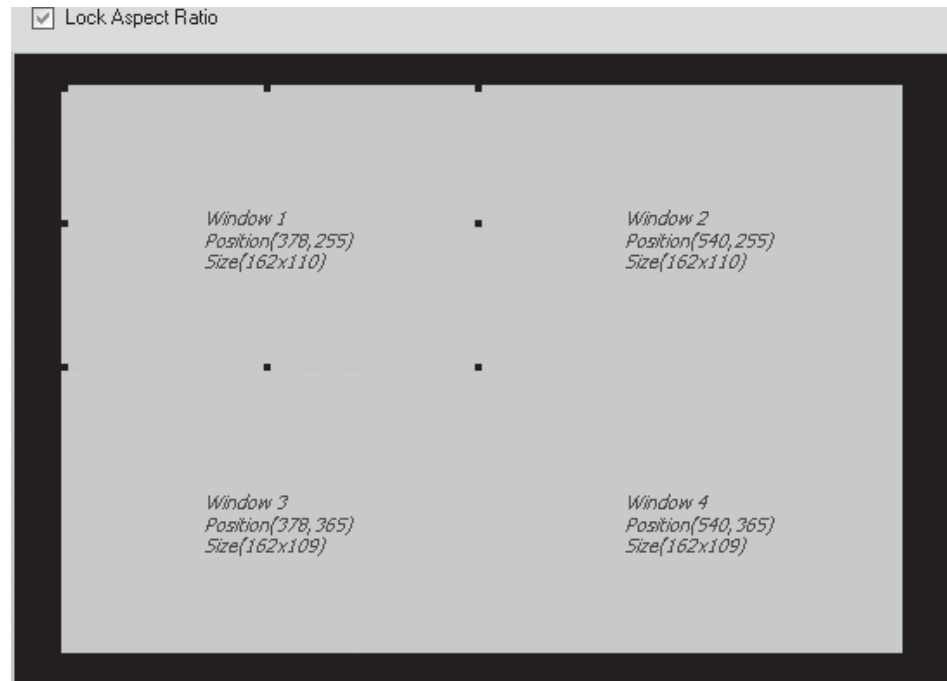

Figure 4-9 — Graphic area
The graphic area (figure 4-9) represents the PIP's video output and the associated four (PIP 444) or two (PIP 422) picture-in-picture windows.
- **Preview** — To see a preset's settings without recalling the preset, select the desired preset using the drop box and click the Preview button. The program pops up a window that resembles the graphic area (figure 4-9).